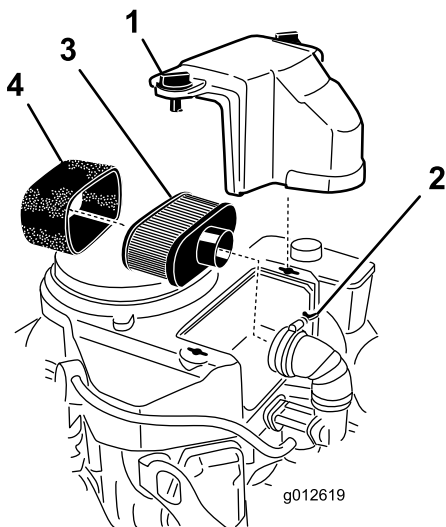

Figure 33
3. Clean around the air cleaner to prevent dirt from getting into the engine and causing damage (Figure 33).
4. Unscrew the cover knobs and remove the air cleaner cover (Figure 33).
5. Unscrew the hose clamp and remove the air cleaner assembly (Figure 33).
6. Carefully pull the foam element off the paper element (Figure 33).
1. Clean the paper element by tapping gently to remove dust. If it is very dirty, replace the paper element with a new one (Figure 33).
Do not clean the paper filter. Replace it after 200 operating hours (Figure 33). Inspect the element for tears, an oily film, or damage to the rubber seal, and replace it if it is damaged.
1. Carefully slide the foam element onto the paper air cleaner element (Figure 33).
2. Place the air cleaner assembly onto the air cleaner base or hose and secure it (Figure 33).
3. Place the air cleaner cover into position and tighten the cover knobs (Figure 33).